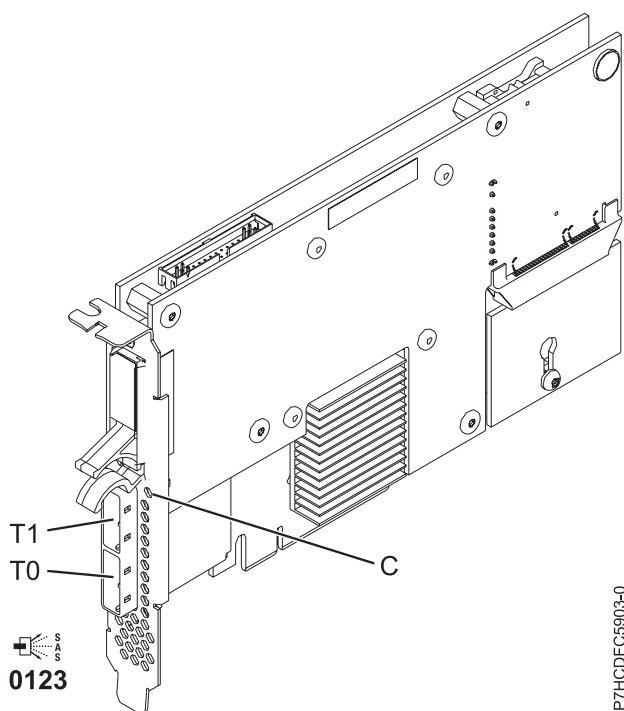

Figure 62. PCIe Dual - x4 3 Gb SAS RAID Adapter
The 5903 or 5805 contains a LED ((C) in Figure 62 on page 210) that flashes if the cache data is present. The cache-data present LED flashes when there is possible data in the cache on the adapter. If the cache data present LED is flashing, do not replace the cache battery pack. If replaced when the LED is flashing, the cache data is lost. See Figure 62 on page 210 to locate the cache-data present LED on this adapter.